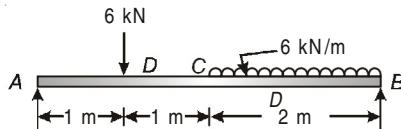

Fig. 4.32
- 4.6. A beam AB of 4 m span is simply supported at the ends and is loaded as shown in Fig. 4.32. Determine; (i) Deflection at C . (ii) Maximum deflection and (iii) Slope at the end A .